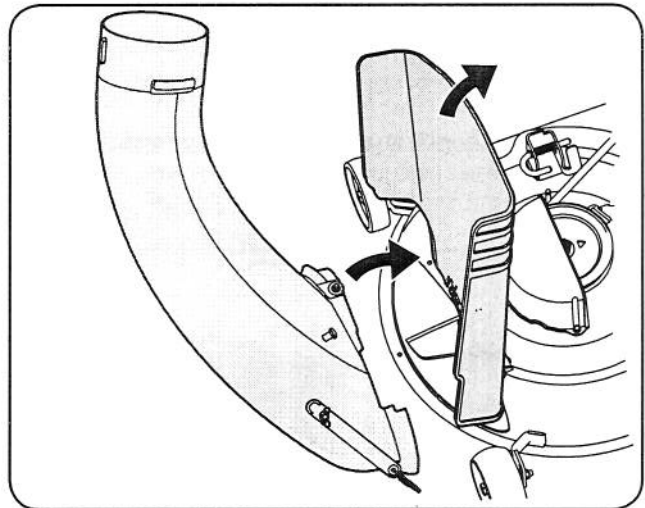

Figure 4-23
14. With the tractor's discharge chute raised up and held open, install the chute elbow over the chute opening by placing the deck mounting pin in the hole provided, as seen in Fig. 4-23, then secure the elbow to the deck by hooking the retainer strap torsion spring hook over the deck wheel mounting bracket as seen in Fig. 4-24.